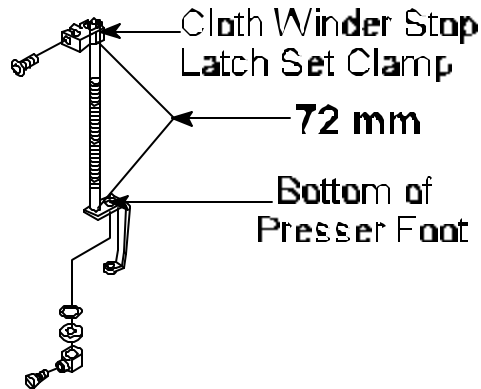

Figure 8
21. **Measure** from top of Presser Foot 72 mm and adjust bottom of Cloth Winder Stop Latch Set Clamp to measurement. See Figure 8.
22. Using 2.5 mm Allen Wrench, **secure** Cloth Winder Stop Latch Set Clamp with hex socket bolt. See Figure 8.